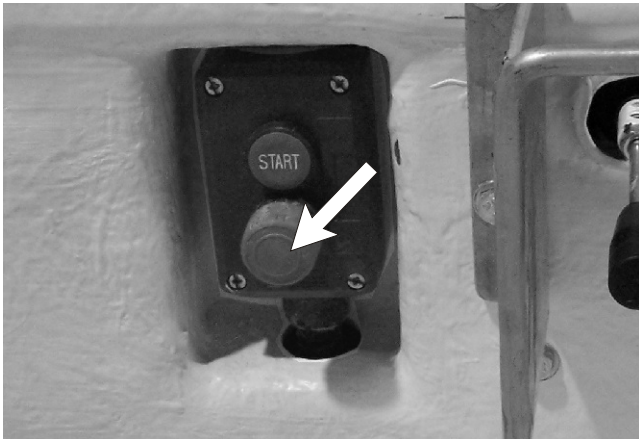

Figure 9.4 - Platform Emergency Stop Switch
5. Ensure that the platform emergency stop switch is disengaged (out) (see Figure 9.4).